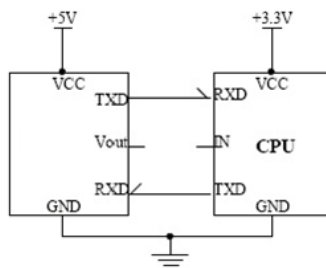

Figure3
- ① Direct link 3.3V equipment (CPU). Through a serial port directly receive gas concentration data and execution calibration function. As shown in figure 3: